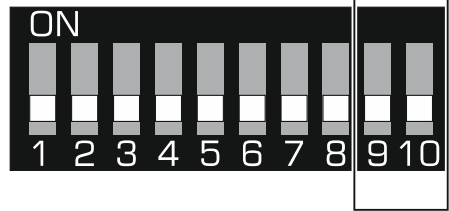

Fig. 2. Switches defining the controller operating mode.
**Switches 9 and 10** (Fig. 2) define the controller operating mode – see Table 1.